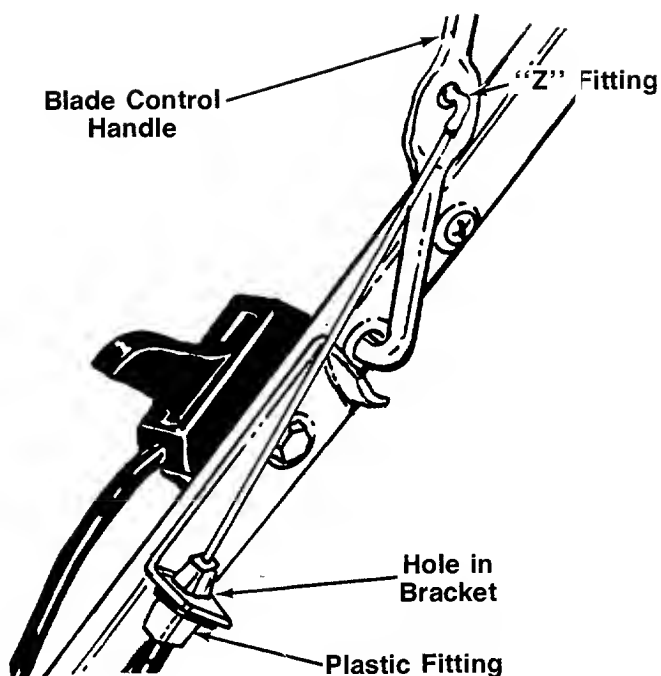

FIGURE 6.
1. The brake cable is attached to the engine, and has a "Z" fitting on the loose end. Route the brake cable below the lower handle. Place end of cable through the hole in the bracket as shown in figure 6. Be careful not to bend or kink the cable at any time. Push the plastic fitting until it locks into the hole in the bracket.
2. Hook the "Z" end of the brake cable into the hole in the blade control handle from the inside to the outside as shown in figure 6.
3. Loosen (do not remove) the screw on the cable clamp shown in figure 6. Slip the control casing under the clamp (cable must move freely beneath the clamp).